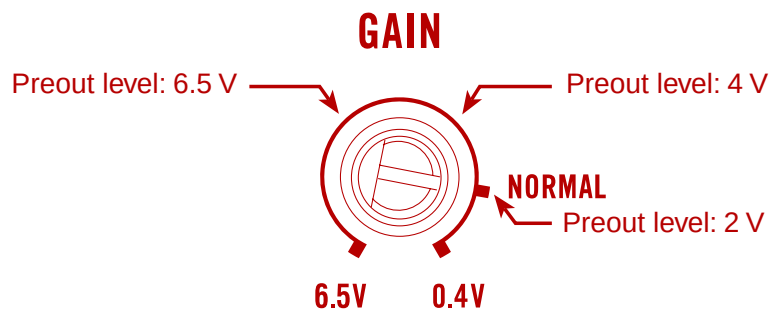
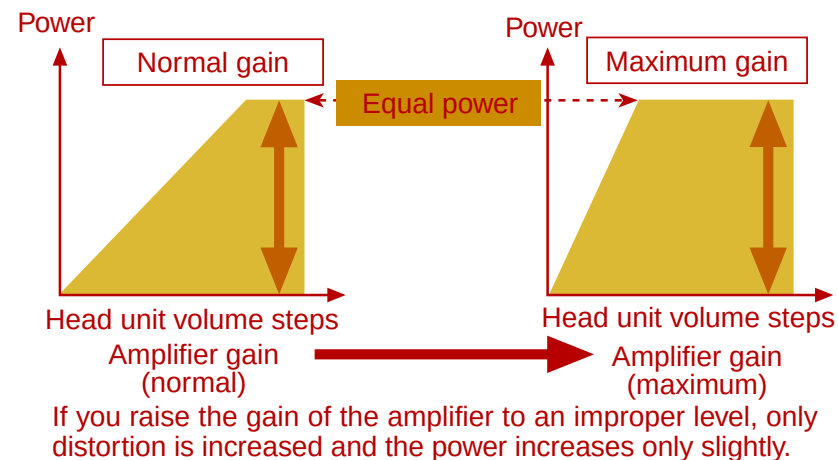
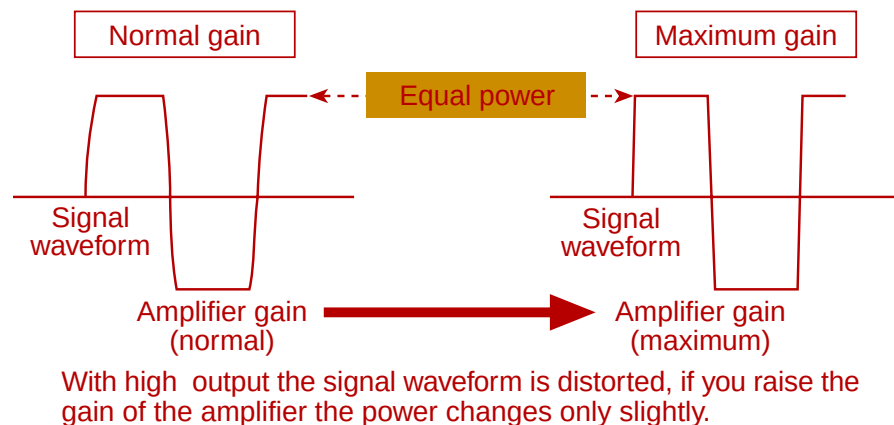

Fig. 1 Gain control of this unit
Fig. 2 Relationship between the gain of the amplifier and the output power of the head unit
Fig. 3 Signal waveform when outputting at high volume by the gain control of the amplifier
- If sound output is cut, the gain control of this unit may be improperly set. To ensure continuous sound output at increased volume of the head unit, set the gain control of the amplifier to a proper position according to the preout maximum output level of the head unit (Fig. 1). There is no need to decrease the volume of the head unit and too much output is controlled (Fig. 2, Fig. 3).